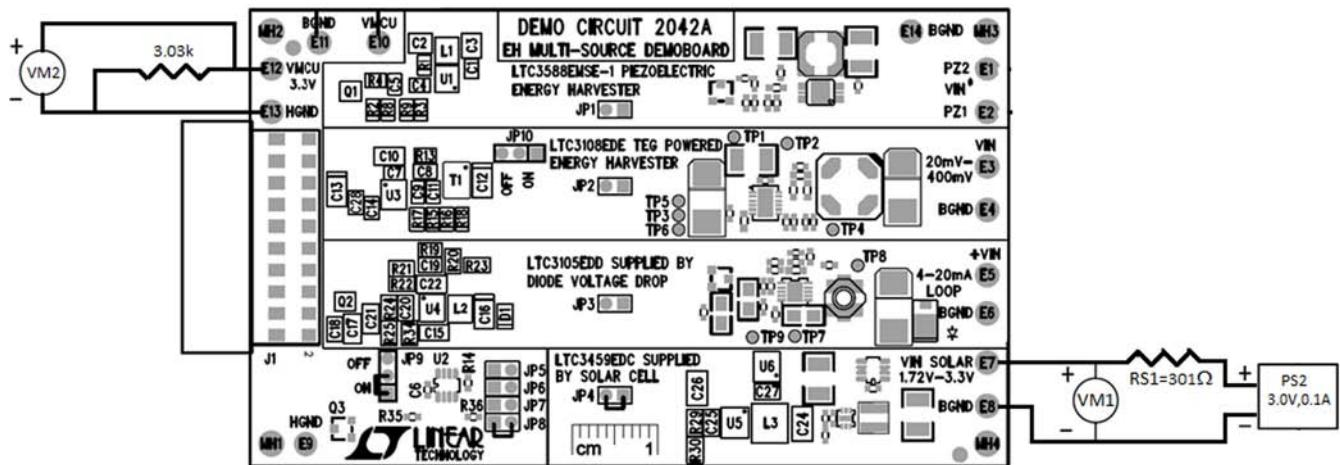

Figure 3. Solar Circuitry Test Setup (Test Steps 6 to 9) Proper Measurement Equipment Setup for DC2042A Solar Circuit Testing
6. Install JP4 and reconfigure the test equipment as shown in Figure 3 (Solar Circuit testing).